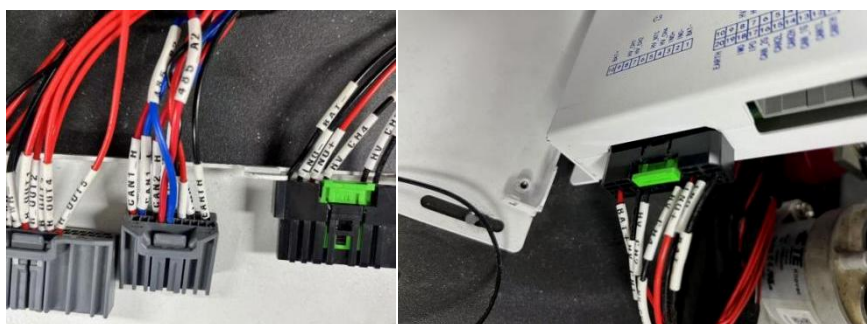

图 4-1 线束接口/Figure 4-1 Harness Interface
- 2) 线束识别：根据线束标签（如 CAN1_L、CAN1_H）对应连接 BCU 接口（见图 4-1）。
- 2) Harness Identification: According to the harness labels (e.g., CAN1_L, CAN1_H), connect them to the corresponding BCU interfaces (see Figure 4-1).